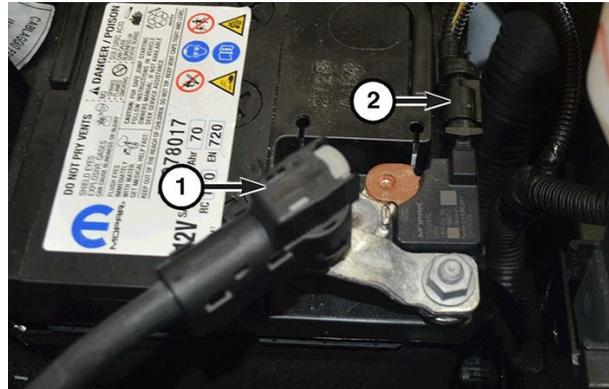

Figure 1 – IBS and Remote Terminal
3. Disconnect and isolate the remote terminal connection from the negative post. Press the release tab and lift the connector (1) off of the post (Figure 1).
18. Connect the remote terminal connection to the negative post (Figure 1).